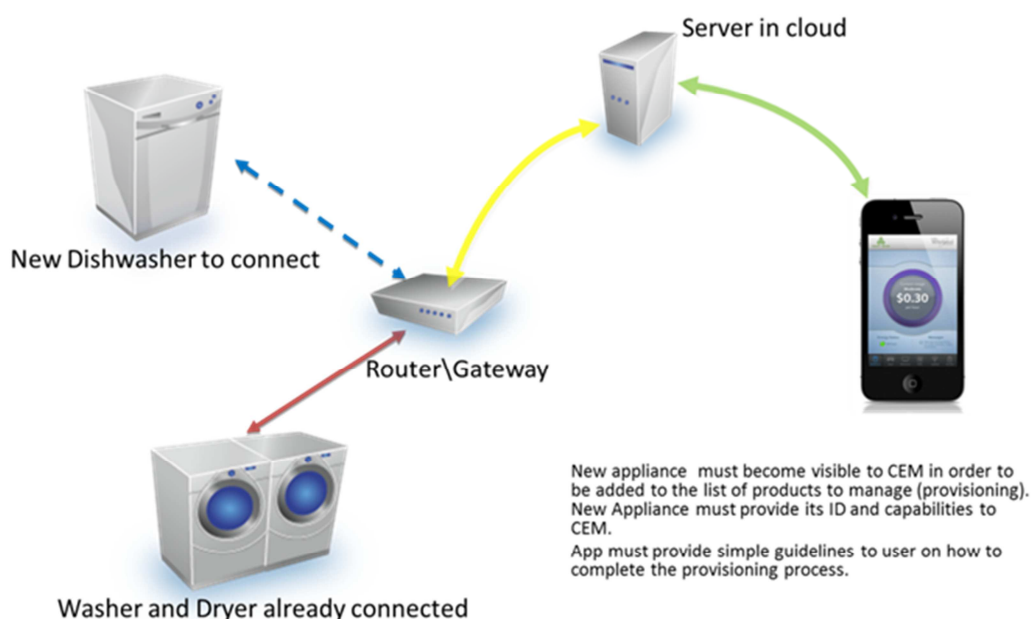

Figure 1- Remote Network Management: new appliance registration
1. Configuration information exchanged in the use case "Remote Network Management" between devices that want to connect to each other. For example, a new dishwasher that wants to register to a Customer Energy Manager (CEM) in the cloud or on a gateway, as it is shown in Figure 1. The source used for defining the configuration information in SAREF4EE is the *EEBus Technical Report, Protocol Specification- Remote Network Management, version 1.0.0.2, 2015-09-19*.